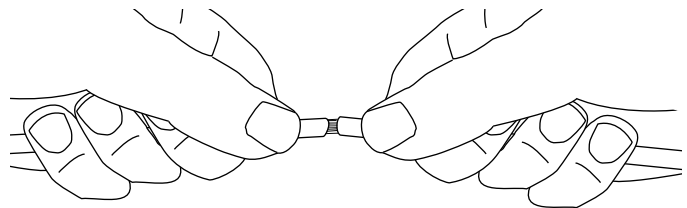

Figure 4
**4.4** Flex the cable causing the outer jacket to separate (Figure 4).